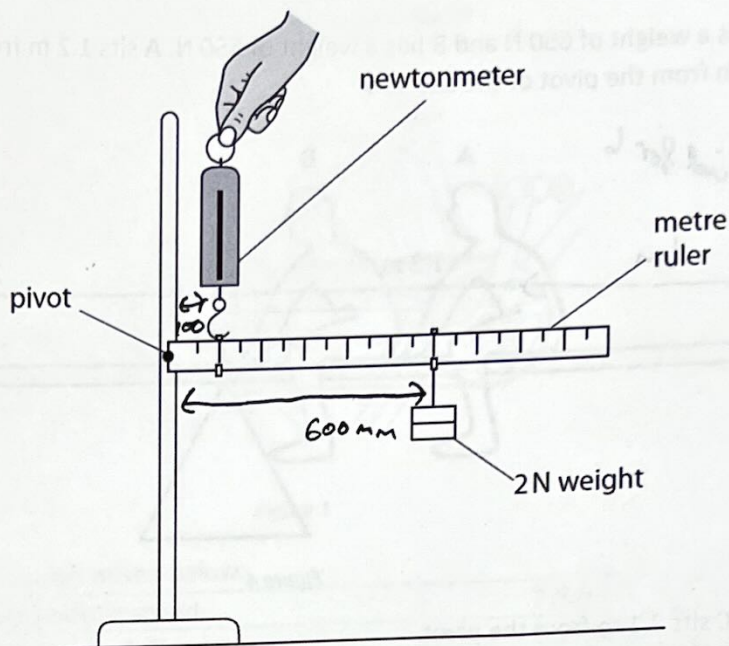

Figure 3
5. Figure 3 shows the apparatus used to investigate moments.